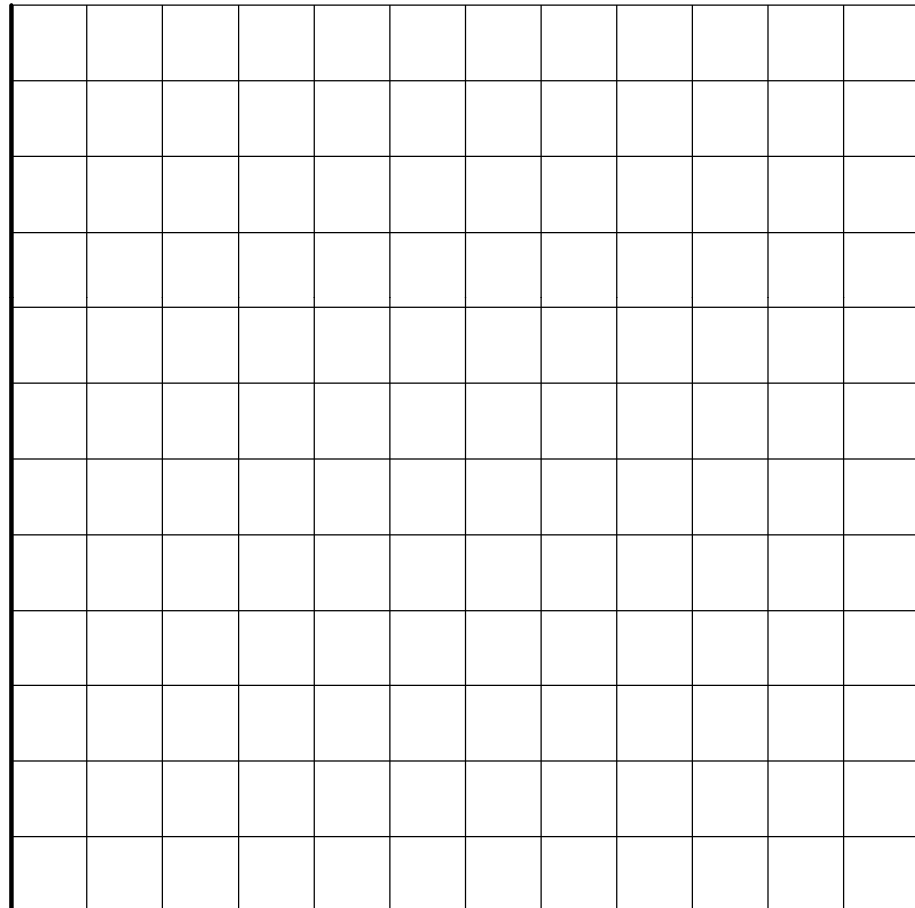

Fig. 3.2.2.3: Characteristics  $I = f(U)$
- Plot the values measured for the second resistor in the chart (Fig. 3.2.2.3) and draw the characteristic,  $I = f(U)$ .